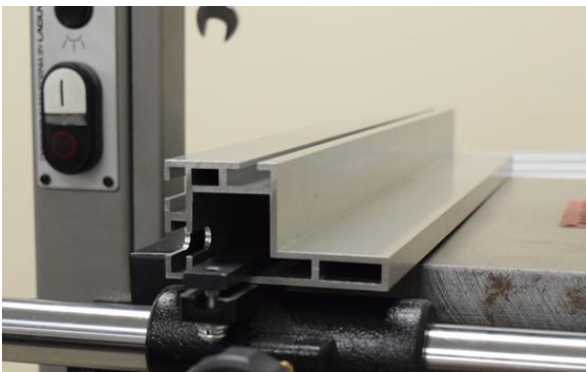

Fig. 37
5. Ensure the fence is parallel with the blade and miter gauge slot, adjusting for 'drift' if needed (Fig.37).